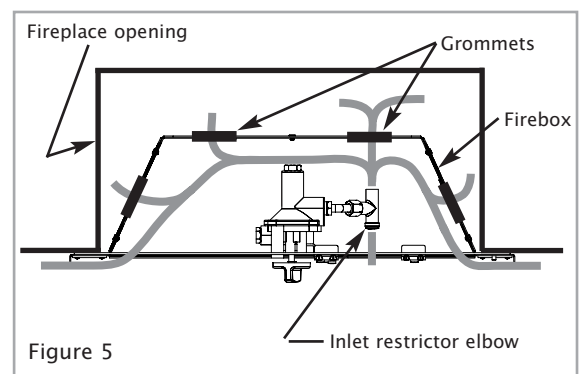

Figure 5
**Supply pipe entry :** Knockout holes are provided in the rear and sides of the firebox for use where concealed pipework is required. Where necessary, knock out the appropriate hole with a sharp tap from a hammer, and fit the rubber grommet supplied. A small incision can now be made in the rubber to slip snugly around the outside of the pipe and sleeving. **Do not install or use the appliance without the seals in place.** If a hole is inadvertently opened, reseal with an intact grommet. Failure to fit the seal correctly will cause flue suction to act upon the area under the burner, resulting in poor performance and intermittent cutting out of the burner. Some possible pipe routes are shown in figure 5.
When the opening is ready for installation of the fire, the gas supply can be routed. Some possible supply pipe routes are shown in figure 5.